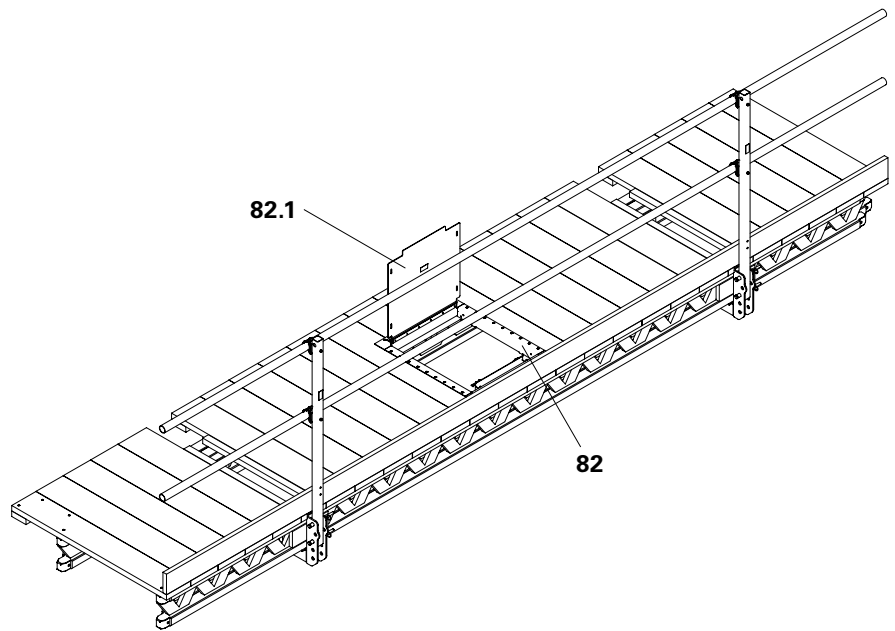

Fig. B5.04a
1. Place Hatch RCS 55 x 60-2, foldable (82) in the prepared recess. The opened hatch cover (82.1) points towards the wall side. (Fig. B5.04a)